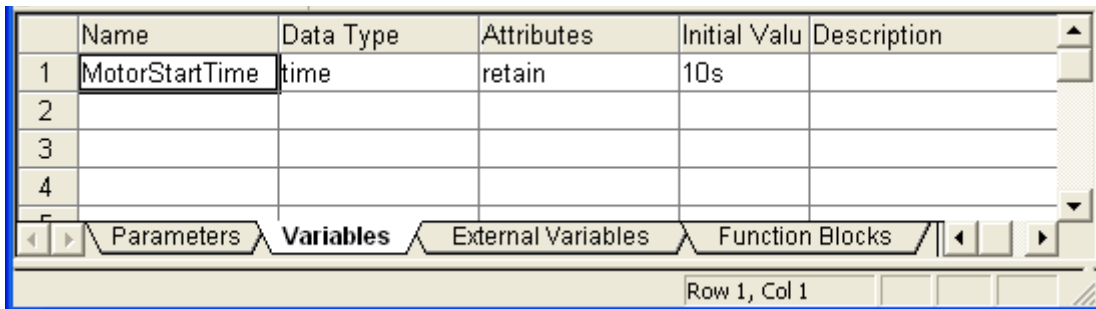

Figure 4. The declaration pane for creating local variables.
- Declaration pane for declaring local variables (see Figure 4).
Figure 4 illustrates a declaration pane for creating local variables inside the type. The local variables can be used by the code inside the type.